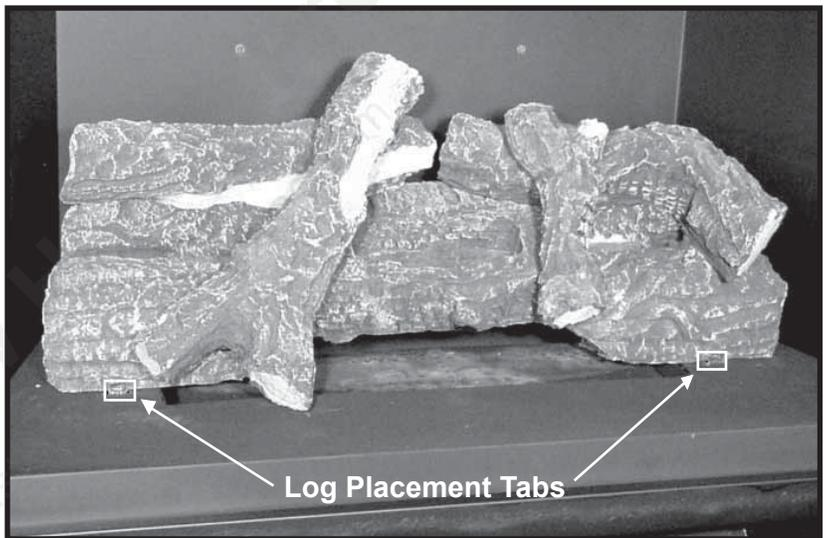

Figure 5
8. Carefully position the log set in the fireplace. Pull the log set forward until the log set contacts the log placement tabs. Center the log set in the firebox side to side as shown in Figure 5. Grate has been removed in Figure 5 photo only for purpose of illustration.